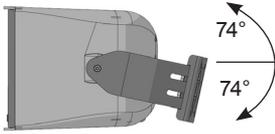

**Figure 1.** R-VTY15 installation
- ❑ For Vari-Tilt™ yokes, follow appropriate illustration (**Figure 1 or 2**) to secure yoke between the pinch plate. Snug tighten pinch plate hardware.